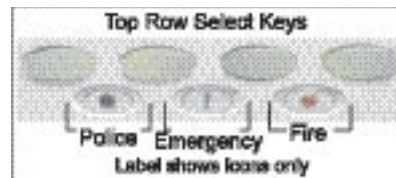

Figure 5: Panic key label placement
All 7000 Series keypads offer a Panic key function that allows users to send Panic, Emergency, or Fire reports to the central station. You must enable the Panic key function in Installer Options in order to use the Panic keys. See Programming Instructions later in this document. If enabled in keypad programming, the Panic key function activates as soon as you apply power to the keypad. Install the three (3) supplied icon labels below the top row of Select keys as shown in Figure 5.